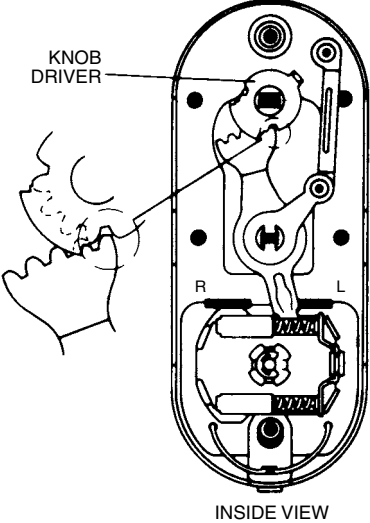

Figure 13.84 Changing hand, Step 15.
15. Install the knob driver (Fig. 13.84).